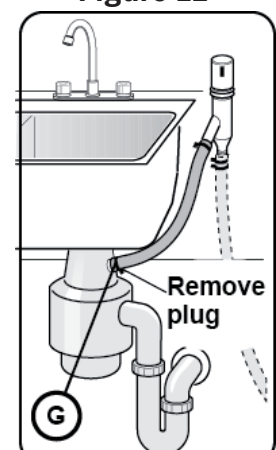

Figure 14
4. To a disposer dishwasher drain connection through an air gap, as shown on Figure 14.